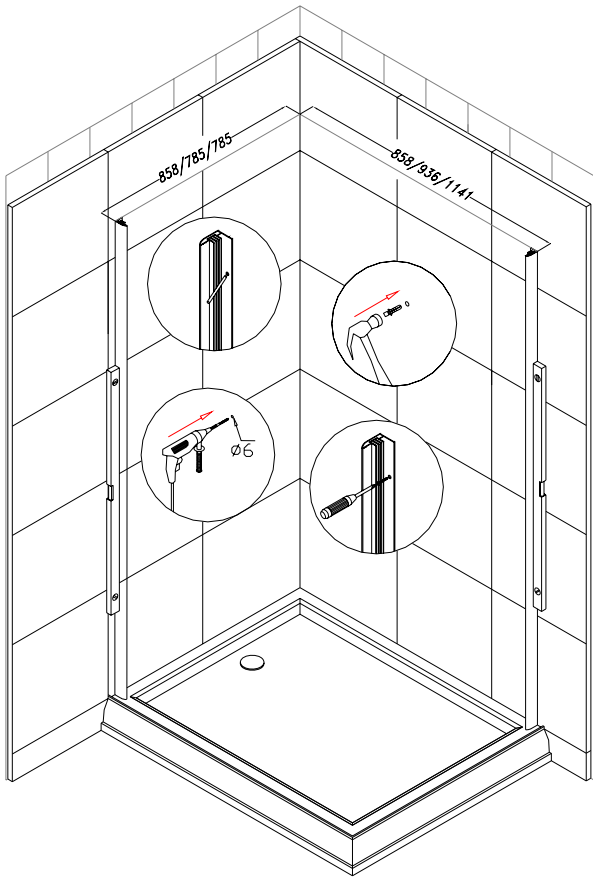

Fig 1
1. Start installation from the shorter wall. Locate the **L-shape wall profile (1)** from the package then place it vertically above the tray 30 7/8" or 34" (refer to Diagram 1) from the corner to the external edge of the profile depending on the model. Using a level, adjust the L-shaped profile upright, then, use predrilled into aluminum profile holes to put on marks for drilling. Now drill the holes and insert the **wall anchors (15)** into the hole. Using **4X30 round head self-tapping screw (12)** to attach the Wall profile to the wall (fig 1).